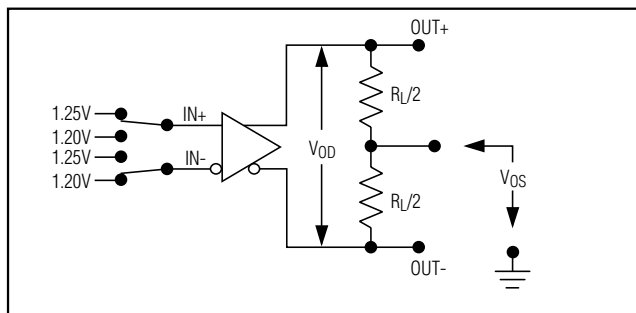

Figure 2. DC Load Test Circuit
**Table 1. Function Table (Figure 2)**